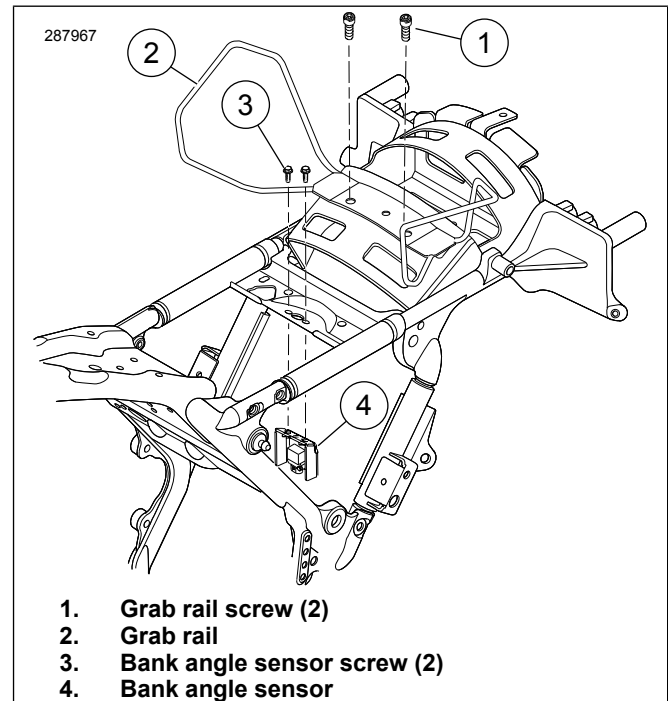

Figure 1. Remove Bank Angle Sensor Screws
5. **If equipped with a grab rail:** See Figure 1. Remove grab rail screws (1) and discard.
7. **2009 - 2018 models:** Remove screws (3) holding the BAS bracket (4).